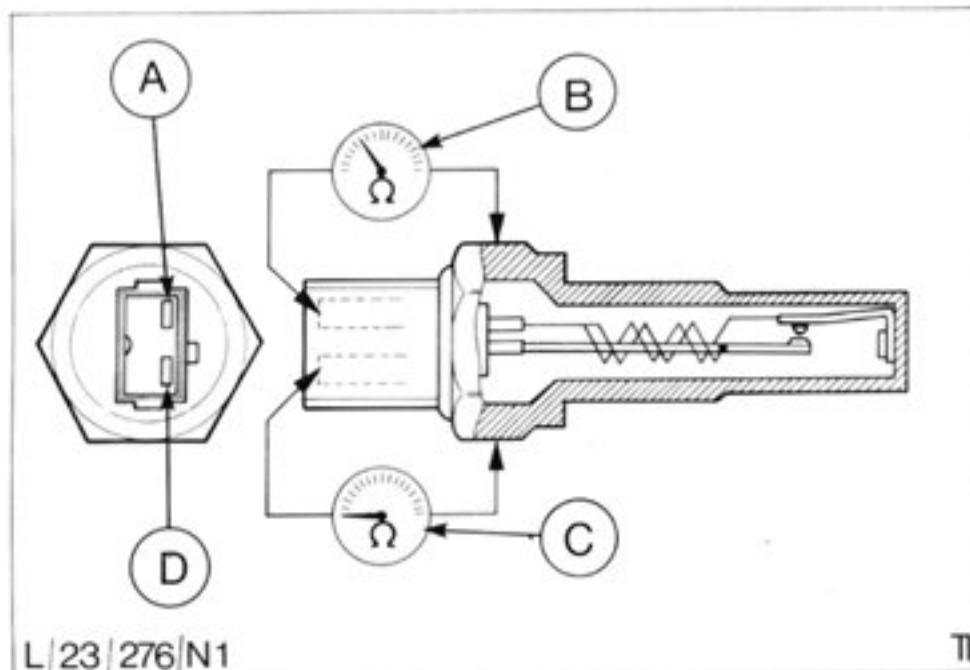

Fig.67. Resistance check with engine hot.
- (ix) Warm-up engine to normal operating temperature and recheck resistance, Fig.67. The heater terminal 'A' should now record a higher resistance whereas the bi-metal terminal 'D' should record an open circuit.